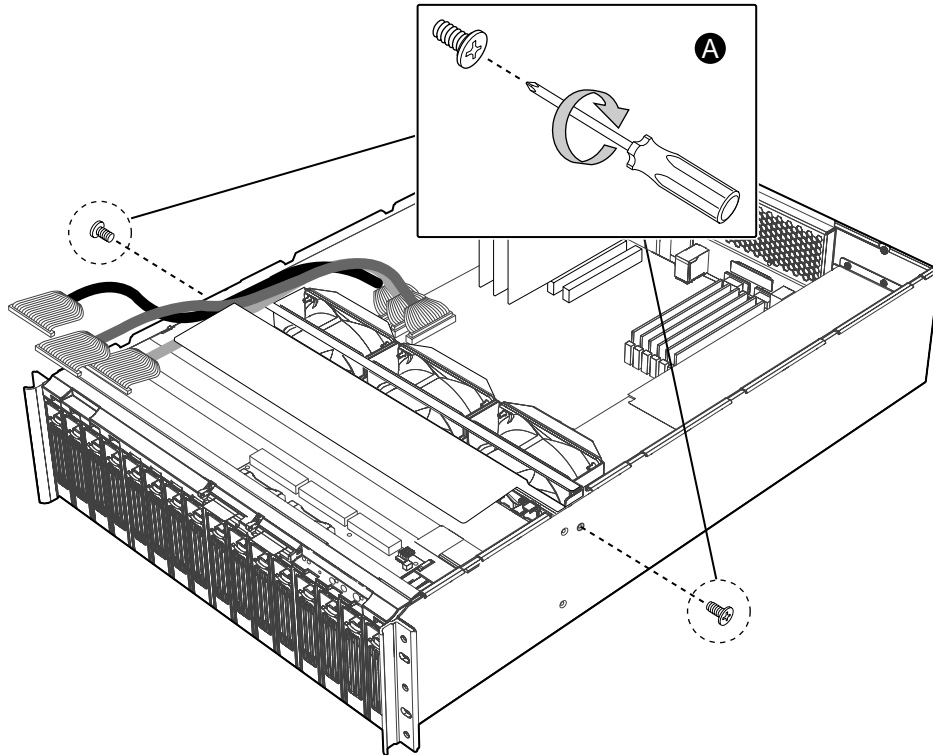

Figure 37. Re-attaching the Fan Assembly to the System
- A. Using a Number 1 size Phillips Screwdriver, screw the Phillips screw on each side of the system into place so that the system fan assembly is mounted in the chassis. See Figure 37.